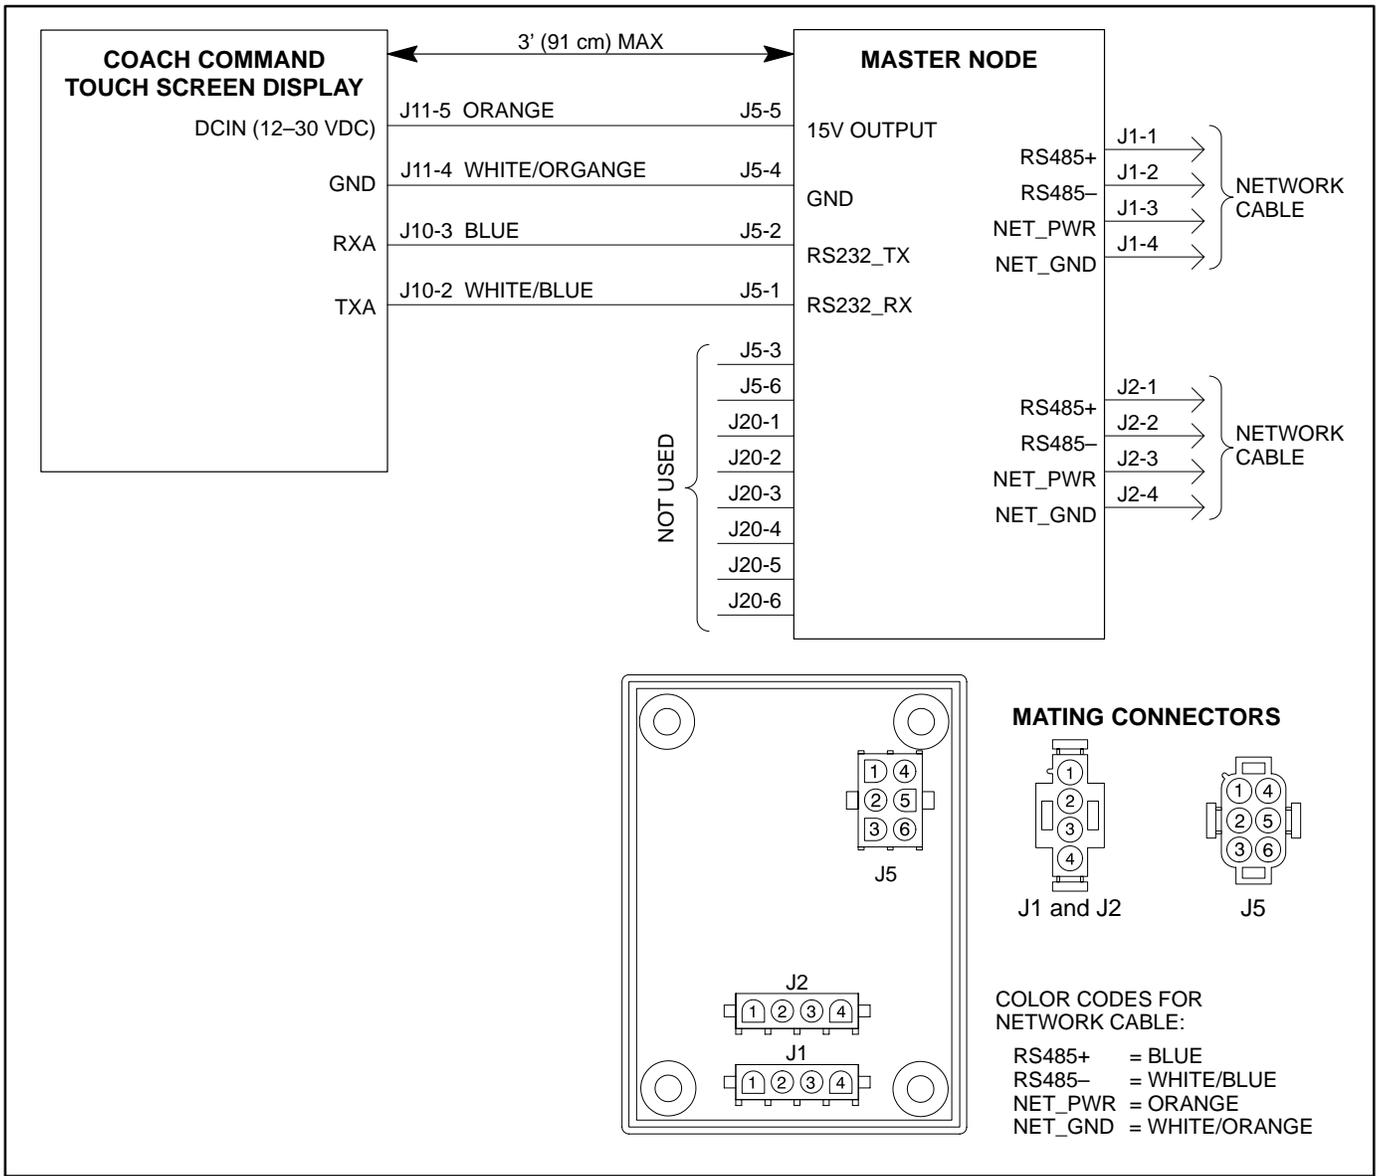
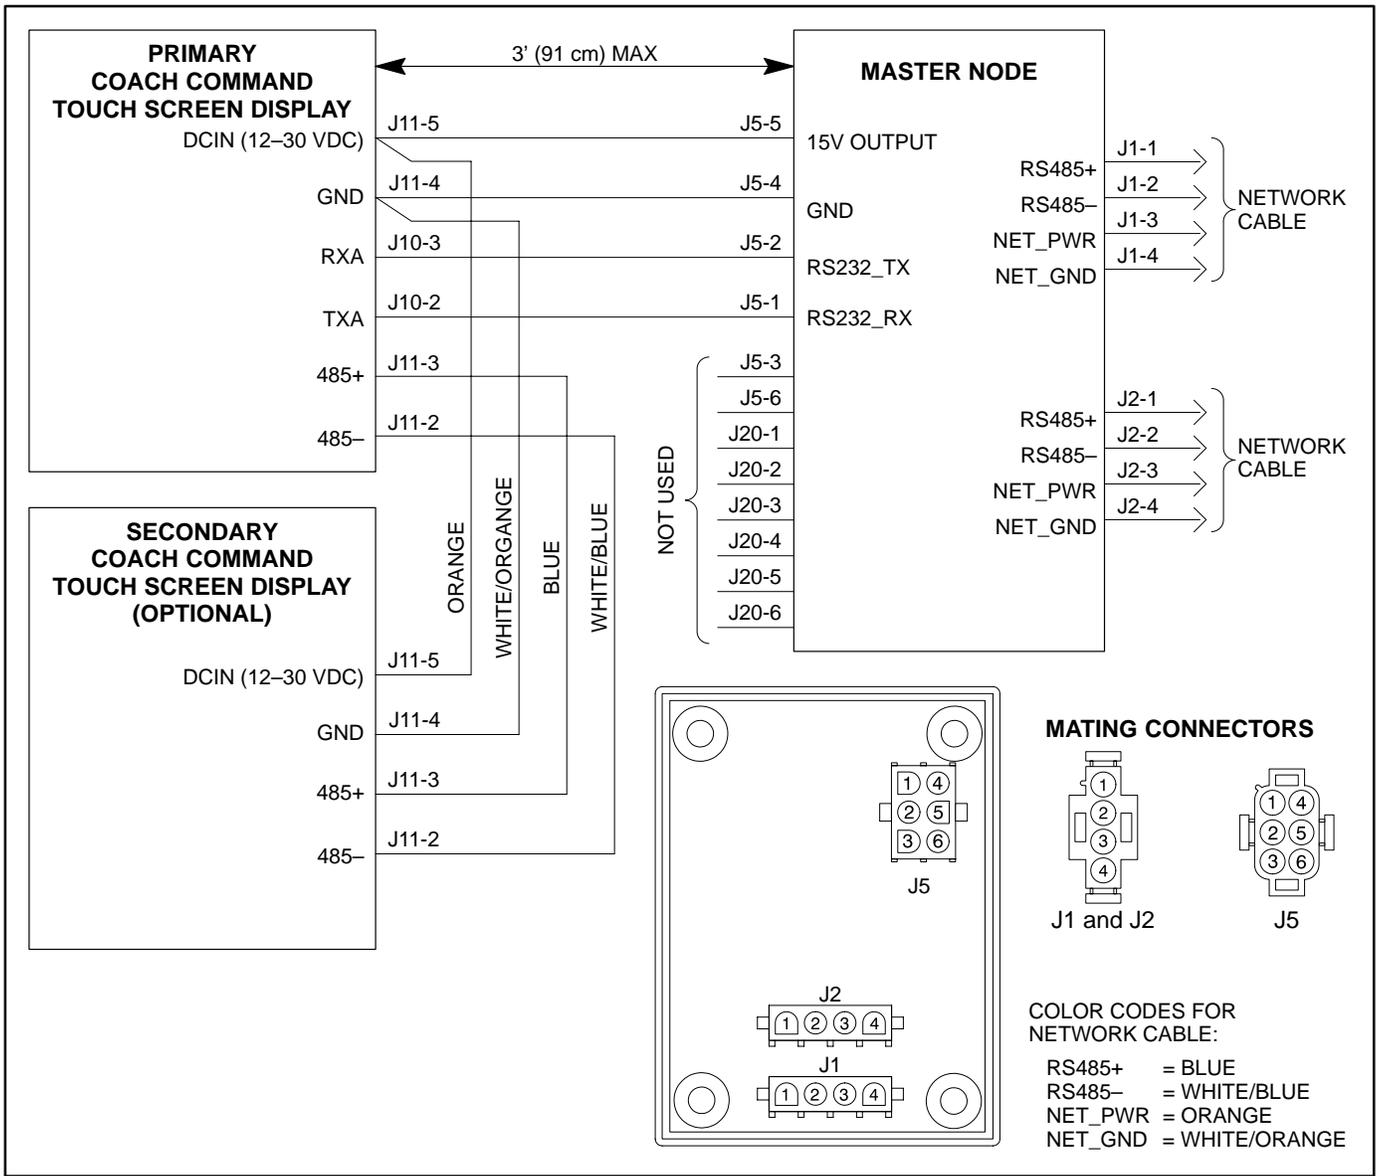

FIGURE 5-2. MASTER NODE WIRING DIAGRAM – INSTALLATIONS WITH ONE TOUCH SCREEN DISPLAY
FIGURE 5-3. MASTER NODE WIRING DIAGRAM – INSTALLATIONS WITH AN OPTIONAL SECONDARY TOUCH SCREEN DISPLAY
4. Refer to the wiring diagram (see Figure 5-2 for installations that include only one Touch Screen display; see Figure 5-3 for installations